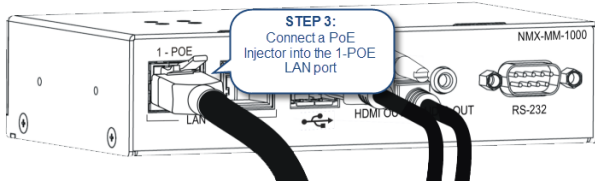

FIG. 9 POWER OVER ETHERNET CONNECTION
3. Using a separate Cat5 cable, connect the Data & Power Out port on the PoE injector to LAN Port 1 on the NMX-MM-1000 (FIG. 9).